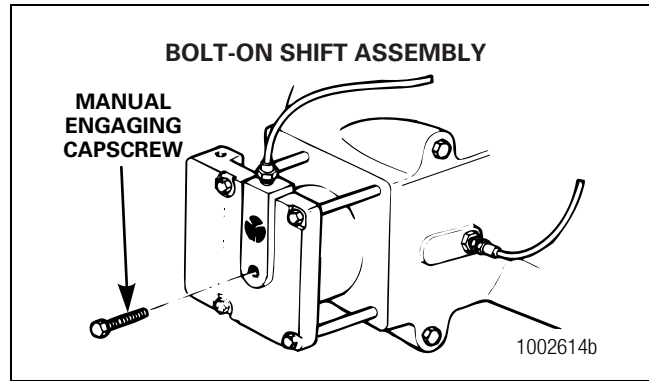

Figure 11.6
- A. Install the manual engaging capscrew into the threaded hole in the center of the cylinder cover. Turn the capscrew to the right three to five turns. Figure 11.6.
- A. Install the manual engaging capscrew into the threaded hole in the center of the cylinder cover. Figure 11.6.